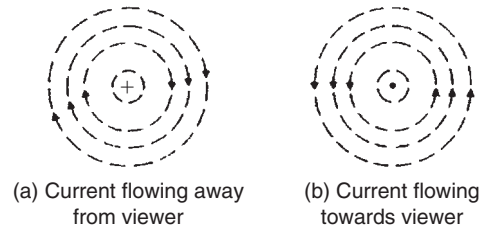
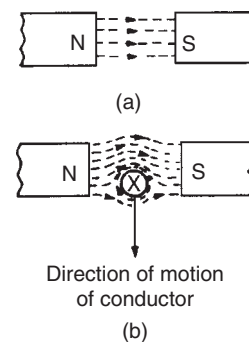

Figure 8.3
Figure 8.13
When dealing with magnetic fields formed by electric current it is usual to portray the effect as shown in Fig. 8.3. The convention adopted is:
- (i) Current flowing away from the viewer, i.e. into the paper, is indicated by \odot . This may be thought of as the feathered end of the shaft of an arrow. See Fig. 8.3(a).
- (ii) Current flowing towards the viewer, i.e. out of the paper, is indicated by \otimes . This may be thought of as the point of an arrow. See Fig. 8.3(b).
For example, with current flowing away from the viewer (Fig. 8.3(a)) a right-hand thread screw driven into the paper has to be rotated clockwise. Hence the direction of the magnetic field is clockwise.
If the current-carrying conductor shown in Fig. 8.3(a) is placed in the magnetic field shown in Fig. 8.13(a), then the two fields interact and cause a force to be exerted on the conductor as shown in Fig. 8.13(b). The field is strengthened above the conductor and weakened below, thus tending to move the conductor downwards. This is the basic principle of operation of the electric motor (see Section 8.4) and the moving-coil instrument (see Section 8.5).